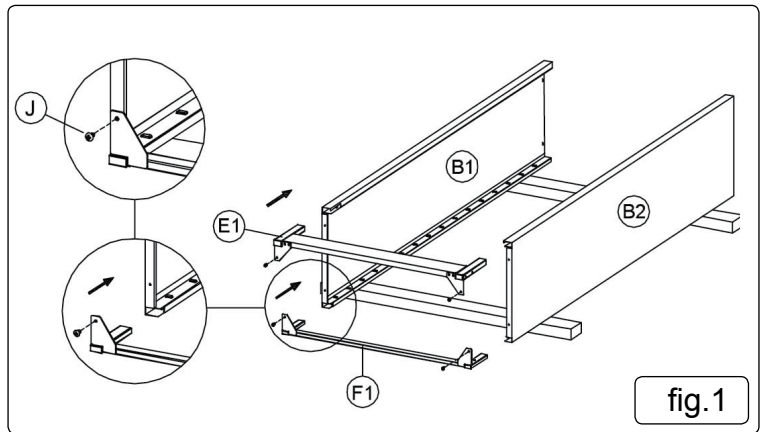

fig.1
Insert and slide front base bracket (E1) and back base bracket (F1) into the bottom of left side panel (B1) and right side panel (B2) as per diagram above. Attach brackets using a self tapping screw (J) in each of the four corners as shown in the diagram (fig.1).